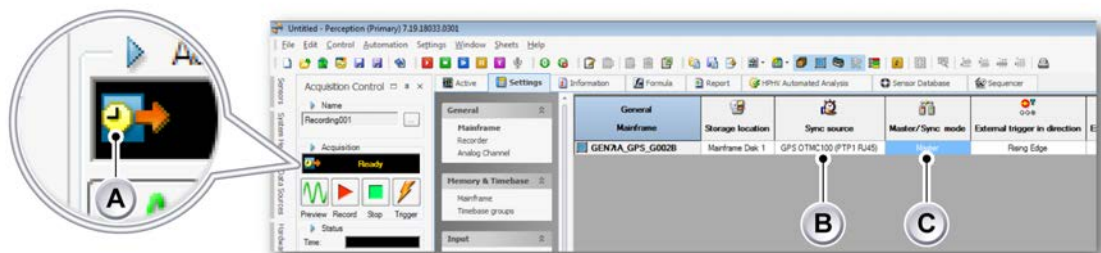

Figure 14.24: Settings for Master/Sync mode to Master in Perception
- 3 Set the Master/Sync mode to Master for the mainframe connected to the GPS (see Figure 14.24).